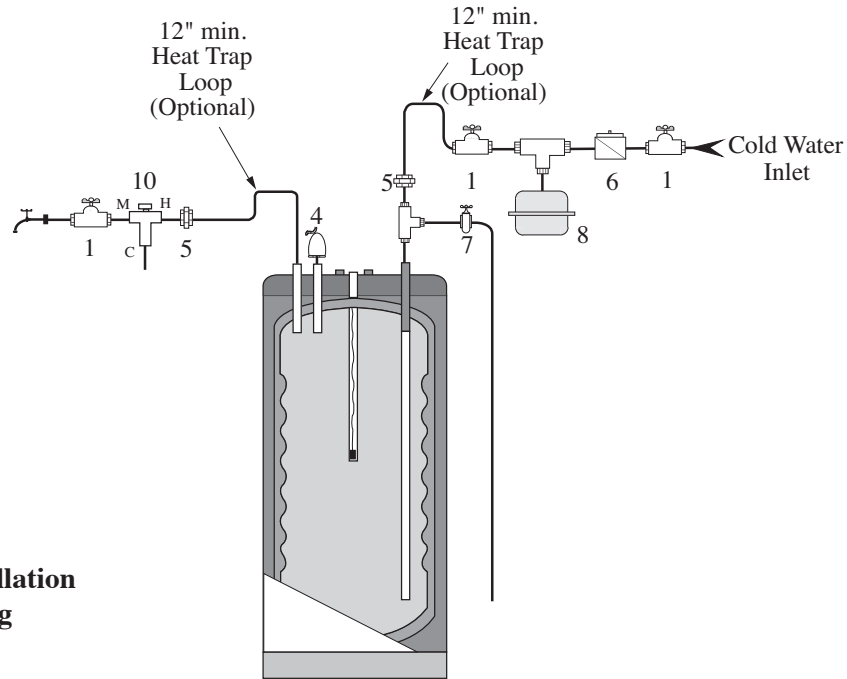

Fig. 1: Standard Installation Domestic Piping SMART Series
- Install a tee connection at the domestic cold water inlet (Fig. 1 and 2 page 8 and Fig. 2A on page 9).
- Each tank should be piped with a drain as shown in Fig. 1.